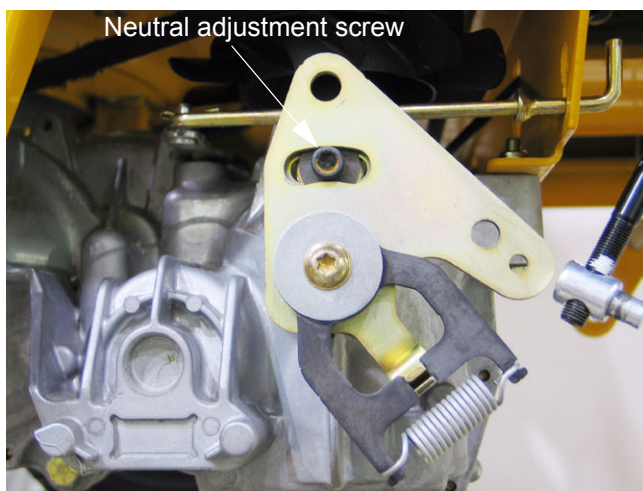

**Figure 7.3**
7.3. Disconnect the ferrule at the EZT end of each lap bar control rod from the neutral return assembly on each of the EZTs. The ferrules are secured to the neutral return assemblies with hairpin clips. See Figure 7.3.